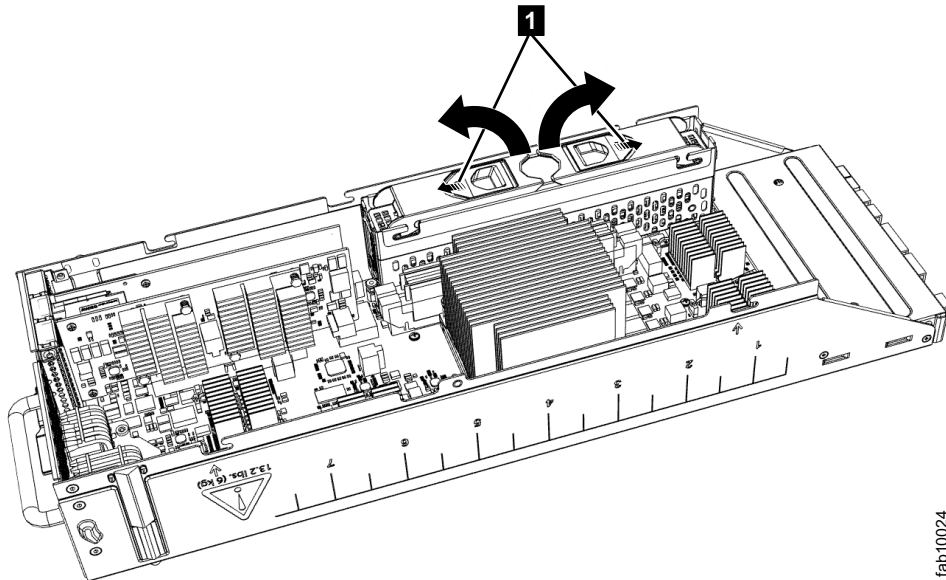

Figure 92. Opening latching arms to disconnect a Storwize V7000 Gen2 node canister battery
4. Spread the two blue battery latches outward as shown in Figure 92 on page 317. Raise open both latching arms of the battery simultaneously to disconnect the battery.